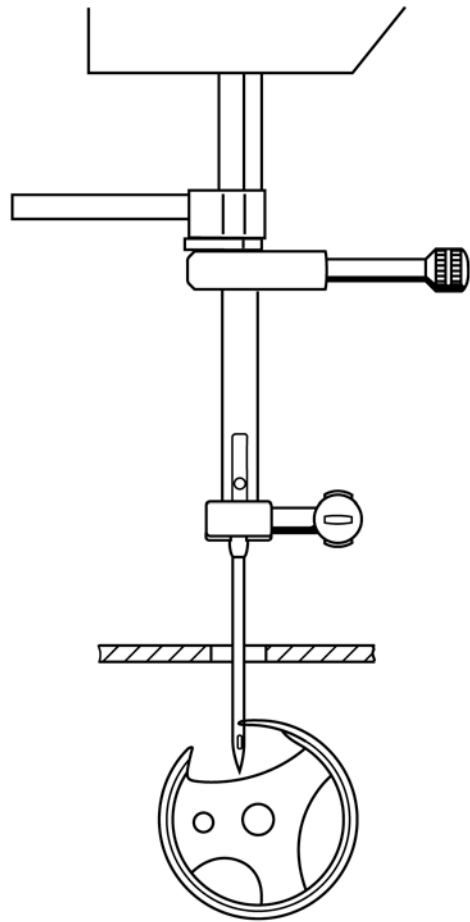

Fig. 36
When the needle bar has moved 2.2 mm upwards from its lowest position (with the machine set for straight stitch and center needle position), the sewing hook point must be exactly opposite the center line of the needle (fig. 36).
- Turn the handwheel in sewing direction until the needle-rise clamp is in contact with the spacer (fig. 36).
- Turn the handwheel a little backwards and then forwards until the needle-rise clamp rests on the spacer (fig. 36).